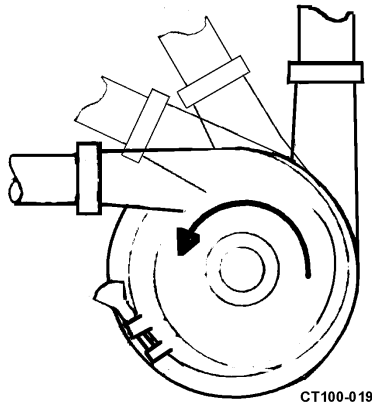

Figure 14 - Recommended Discharge Positions
- The pump casing may be rotated with the discharge connection pointing in any direction. The best pump performance will be with the outlet up, to the left, or positions in between; these positions ensure a flooded casing and prevent problems caused by air in the system (Figure 14).
- Check the pump rotation following the electrical installation. The correct rotation is counterclockwise when facing the pump inlet connection (Figure 14 and Figure 18).